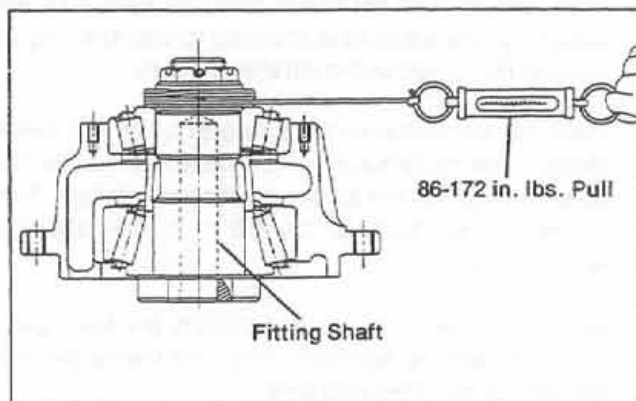

Figure 27:
Step 43. To check the correct preload, fasten a 36" string or a light, flexible wire to the pinion shaft nut and wind it around the washer behind the nut. Connect a spring scale and while rotating the pinion shaft with a steady, even pull, correct preload should be 86-172 in. lb. or 5-9 lb. ft. (6.8-12 N.M.). (see Fig. 27).